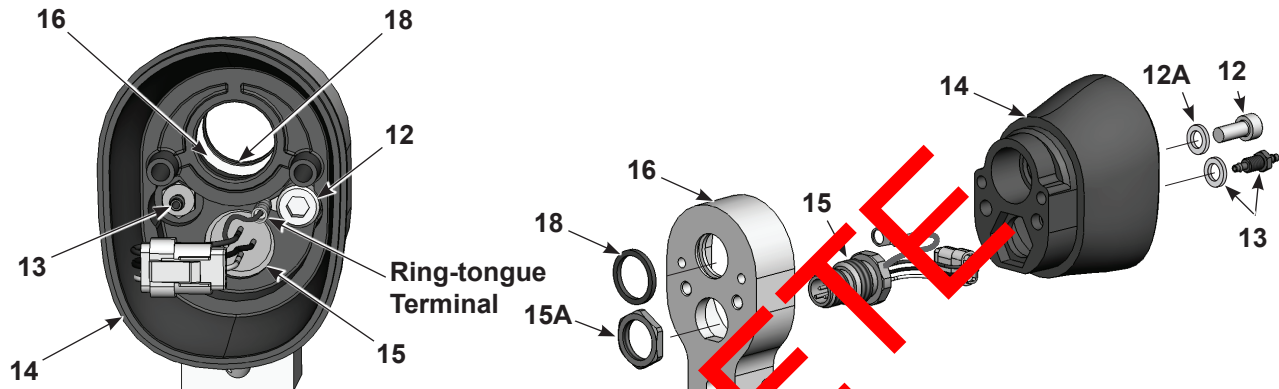

Figure 7-9 Bar-Mount Gun Disassembly 3 of 3
8. See Figure 7-9. To disassemble in the rear body assembly, remove the screw (12), lock washer (12A), and barbed fitting and lock washer (13) from inside the rear body (14). A 3-mm hex key and 1/4-in. deep-well socket are required.
9. Remove the nut (15A) from the receptacle (15), pull the adapter off the rear spray gun body, and feed the receptacle harness through the body.
10. Inspect the quad ring (18) in the adapter (16) and replace it if damaged.